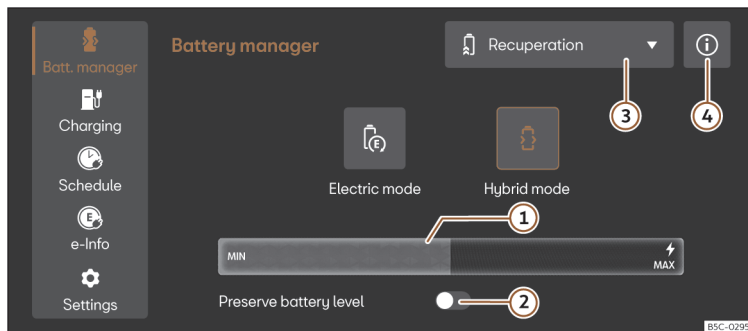

Fig. 123 In the infotainment system: Battery manager menu
- Select **Electric Mode** or **Hybrid Mode** in the infotainment system. Further information about the operating mode can be found in ① >>> **Fig. 123** ④.
Key to >>> **Fig. 123:**